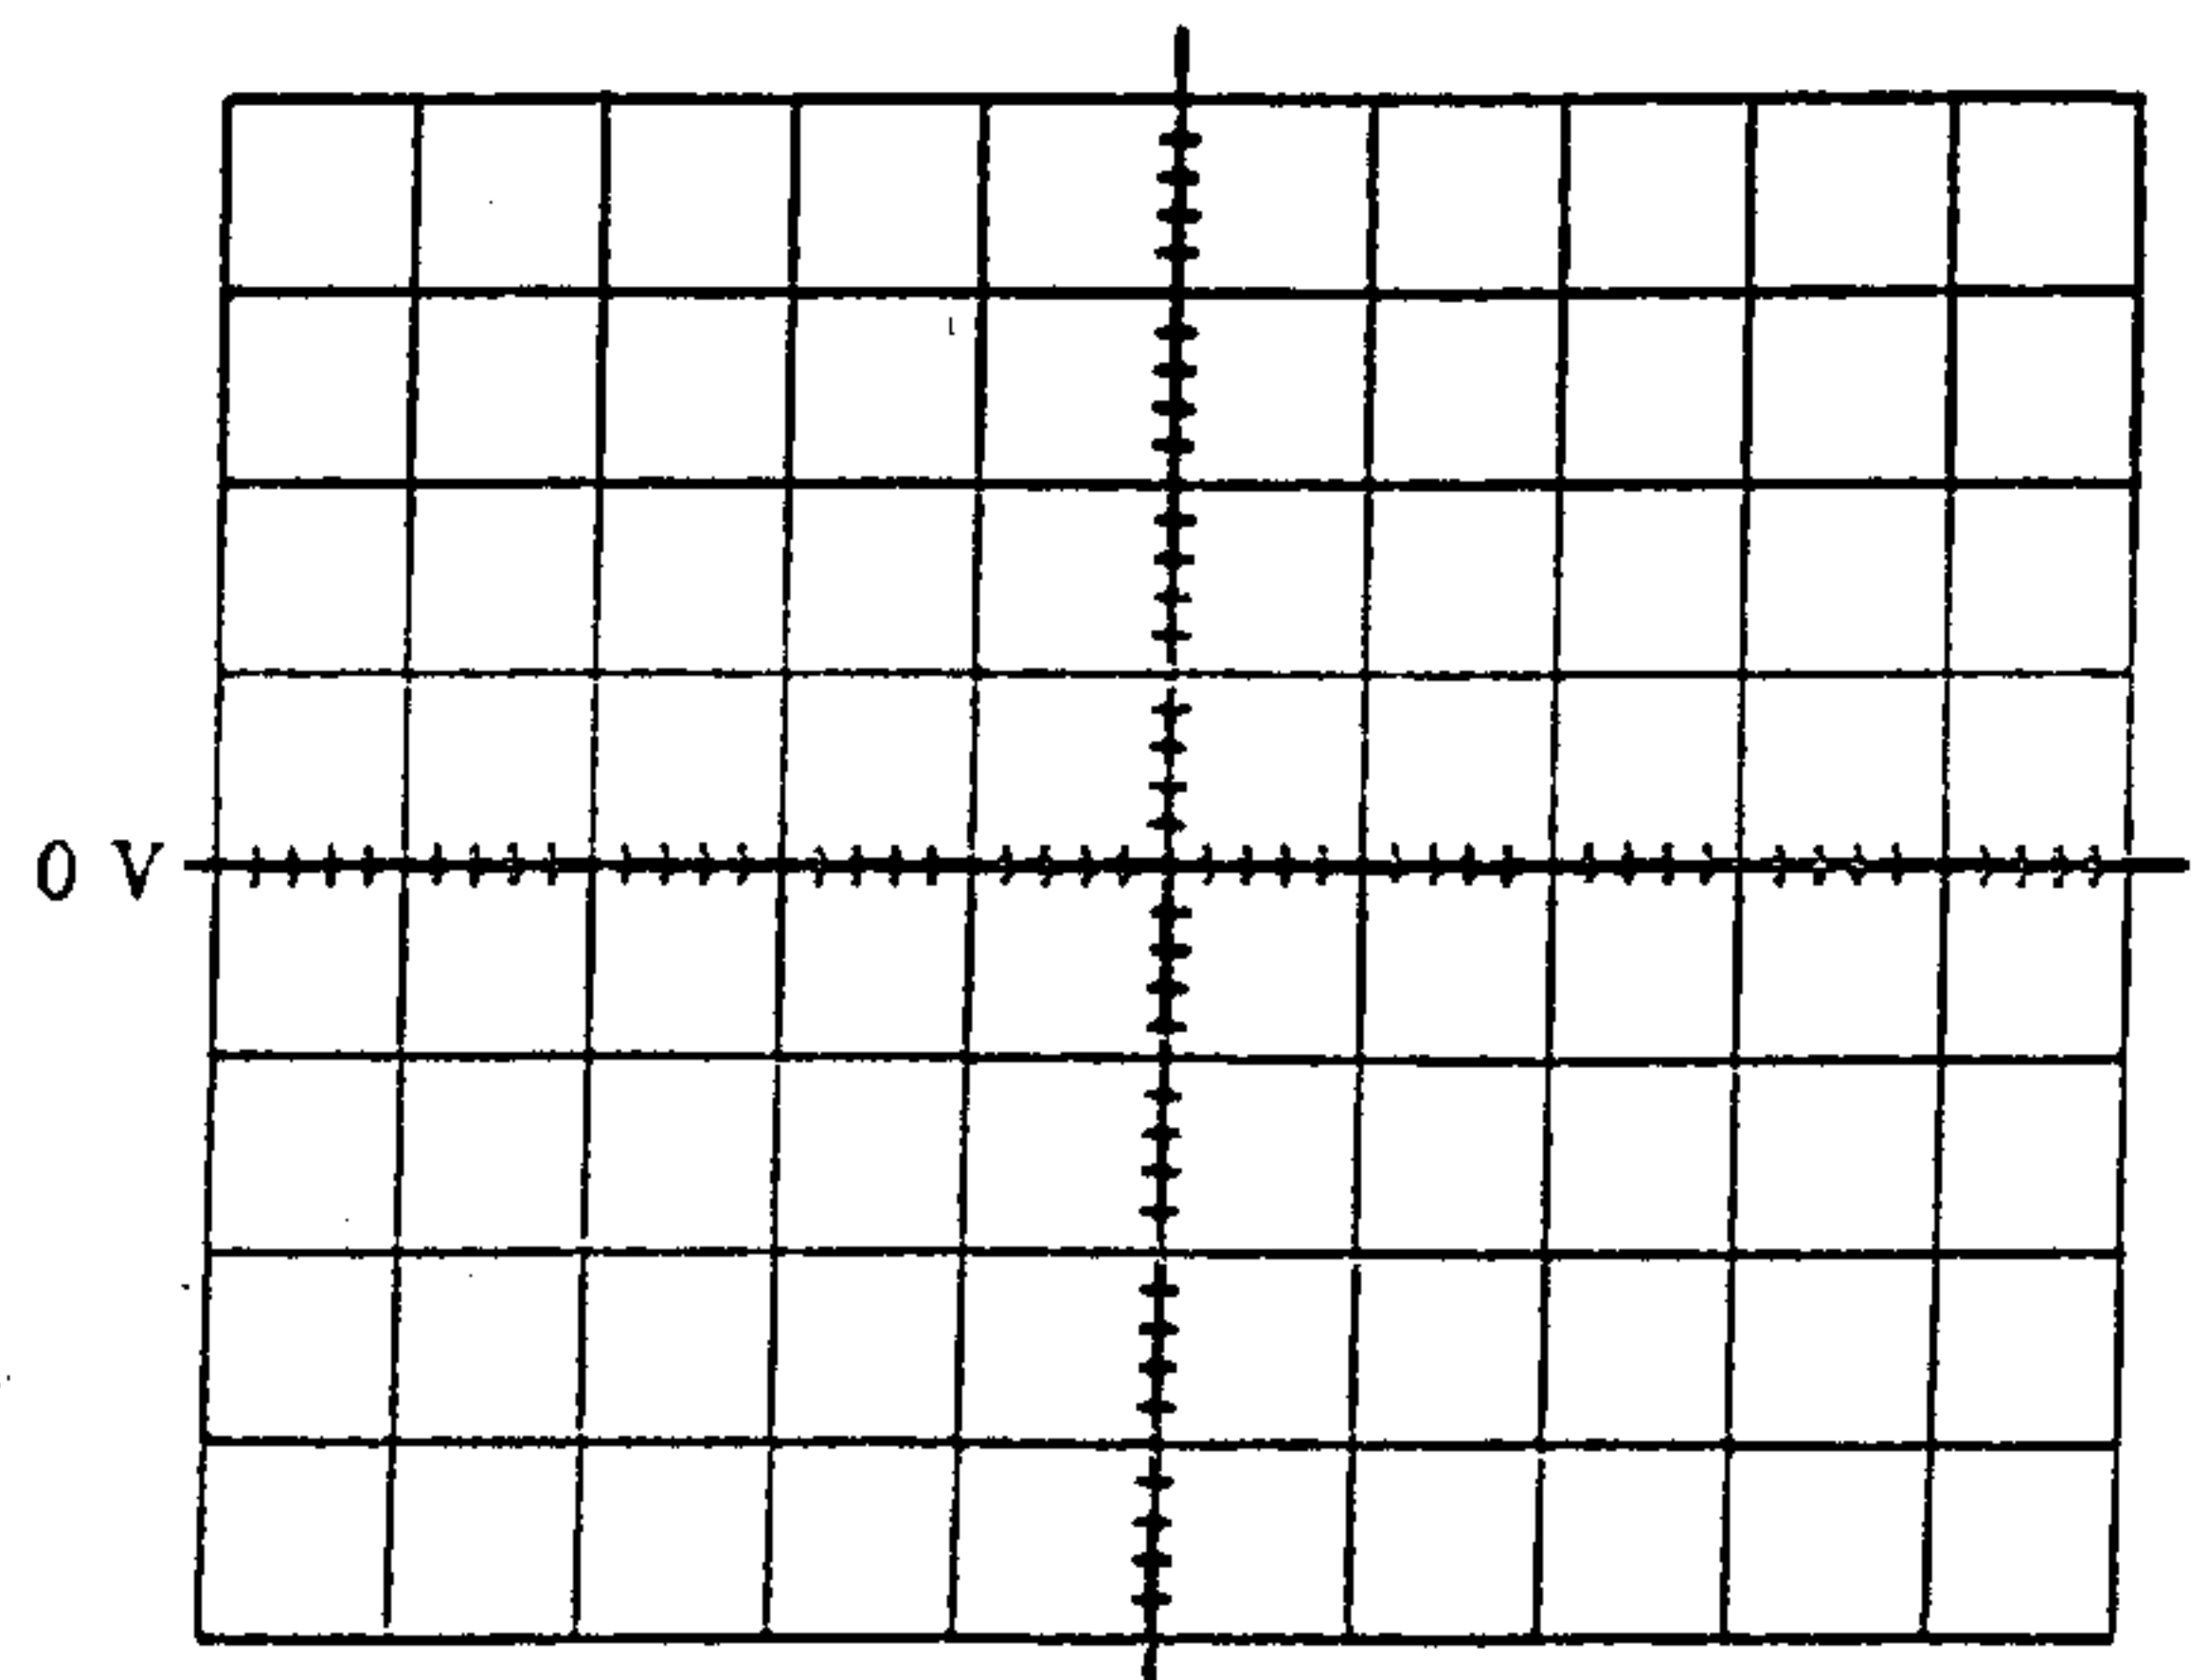
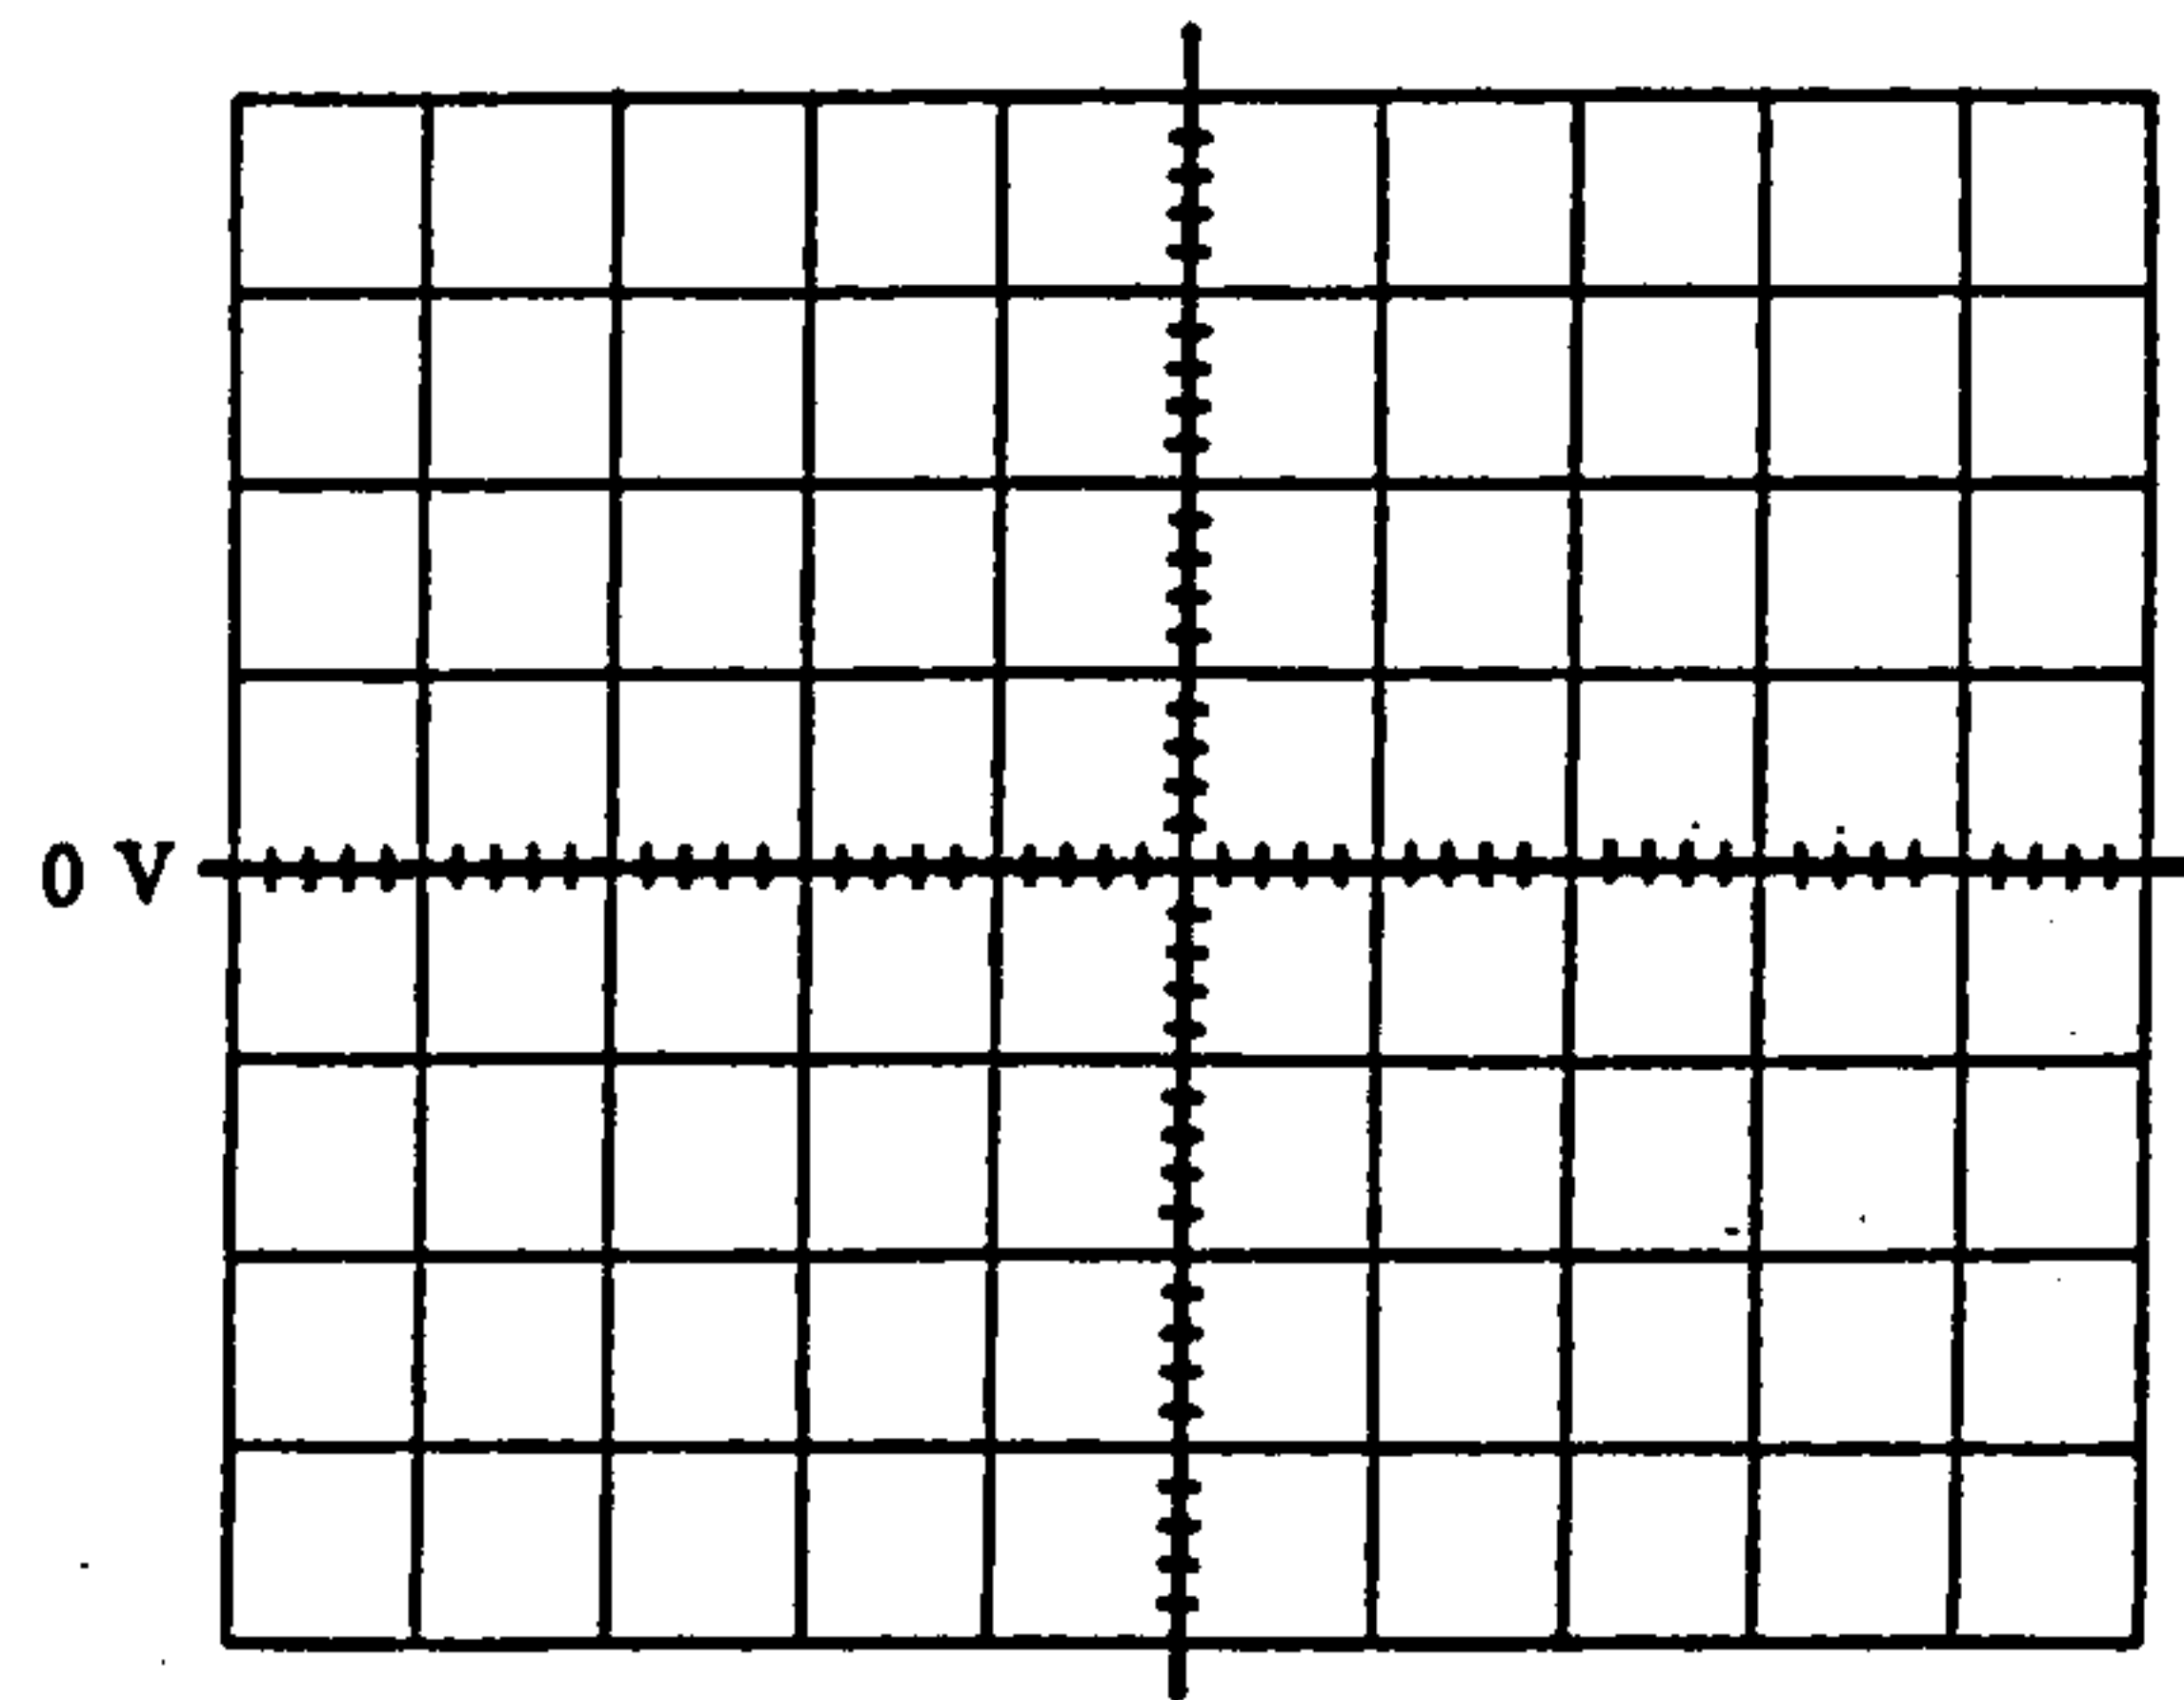

Figure 6-9
Figure 6-10
- h. Using the results of Parts 3(f) and 3(g) sketch the expected waveform for  $v_o$  on Fig. 6.9. Use the horizontal center axis as the  $V_o = 0$  V line. Record the chosen vertical and horizontal sensitivities below:
- i. Using the sensitivities of Part 3(h) use the oscilloscope to view the output waveform  $v_o$ . Be sure to preset the  $V_o = 0$  V line on the screen using the GND position of the coupling switch (and the DC position to view the waveform). Record the resulting waveform on Fig. 6.10.
How does the waveform of Fig. 6.10 compare with the expected waveform of Fig. 6.9?